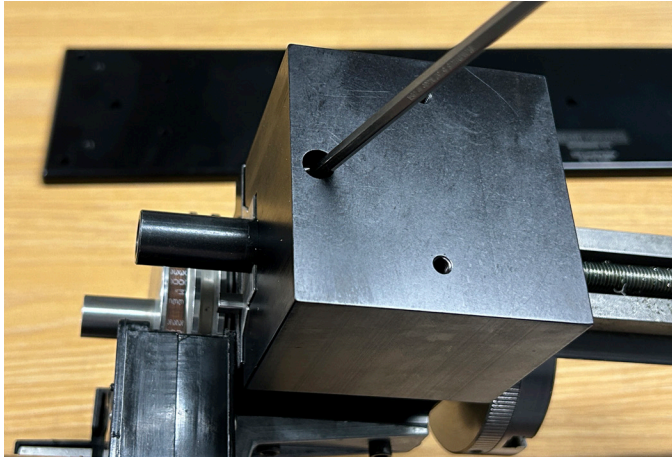

FIGURE 5
5. Take your lathe assembly and turn it upside down. Mount the headstock end mount onto the bed assembly using the 10-32 x 1-1/4" SHCS (as shown in Figure 5). The screw will only thread into the lead screw thrust, 2-3 turns. Thread the screw in "gently" while wiggling the headstock mount to ensure that the bed is aligned correctly with the mount.
the support. **DO NOT OVERTIGHTEN** these screws. Just tighten them to a snug fit (see Figure 5).